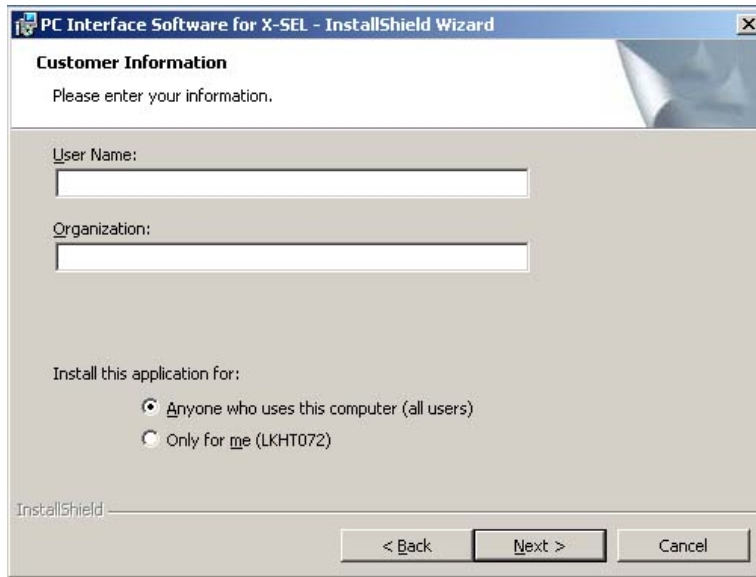

Fig. 1.3 Customer Information Registration
- [4] The Customer Information registration screen (Fig. 1.3) will be displayed. Enter your information and click **Next >**.